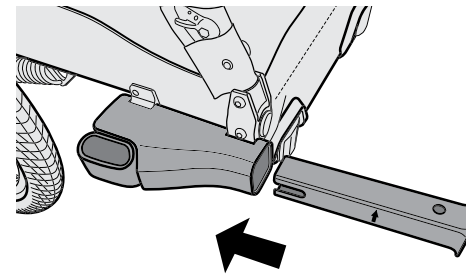

Figure 9
3. Insert the yellow sleeve into the Quick Receiver, with the arrows pointed up, until it is flush with the Quick Receiver (Figure 9).